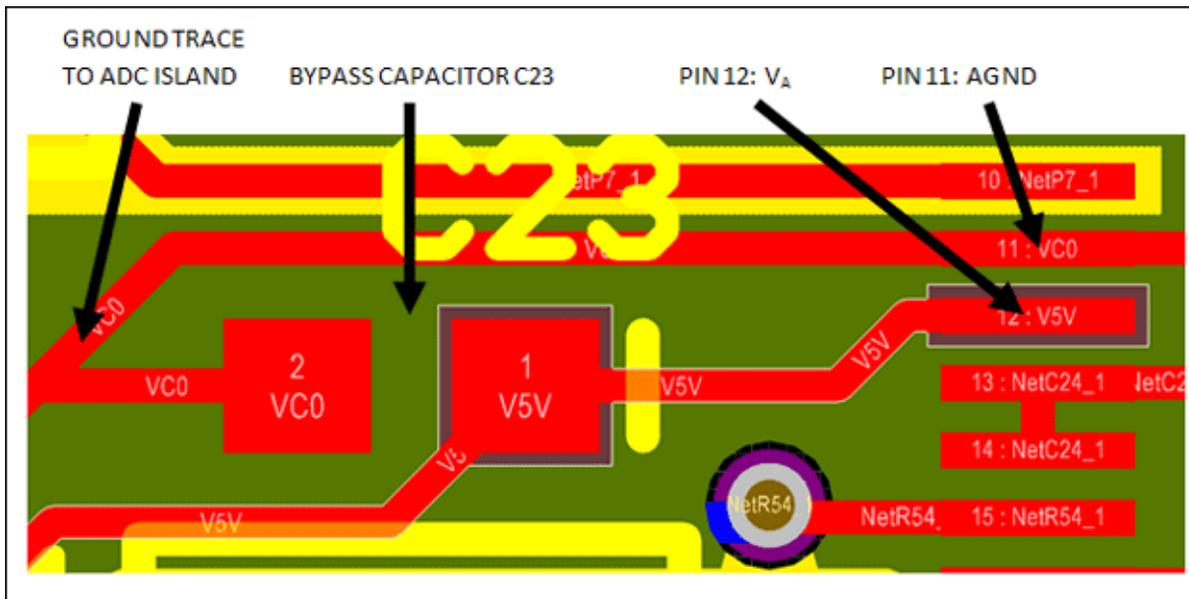

Figure 3. MAX14921 pin 12 bypass capacitor example.
**Figure 3** shows how VA is bypassed. As explained below, it is advantageous to have the AGND signal (pin 11) parallel the AOUT signal (pin 10). For this reason, it is usually easiest to have the pin 12 bypass capacitor on the same side of the PCB as the MAX14921 itself. This maximizes the effectiveness of this bypass capacitor.